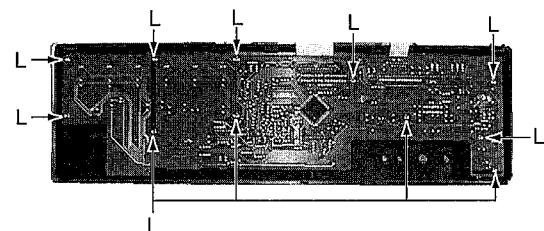

Fig.9
(8) Front P.C.BOARD Removal (Fig.9)